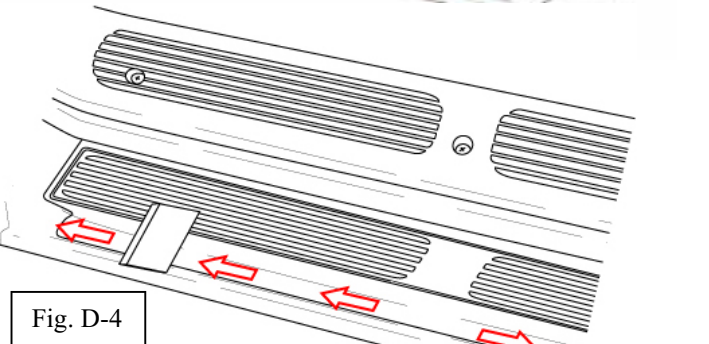

Fig. D-4
- ➡ 6. Using a felt block, slowly squeegee the applique to the vehicle over the vertical surface starting in the center and working out to each end with smooth overlapping strokes. (Fig. D-4)